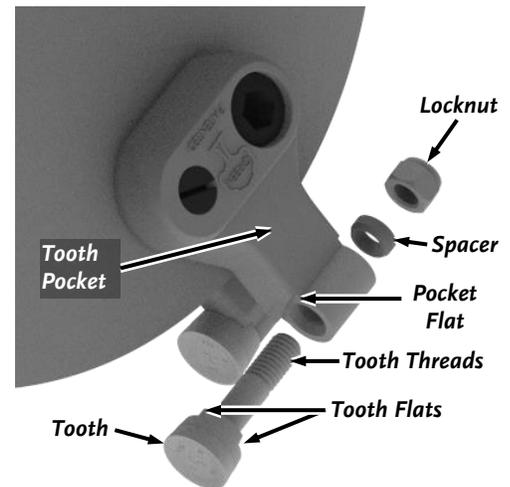

Figure 24
2. Loosen the Locknut on the Tooth using a 5/8" Socket until the top of the Locknut is flush with the top of the Tooth threads (Figure 24).